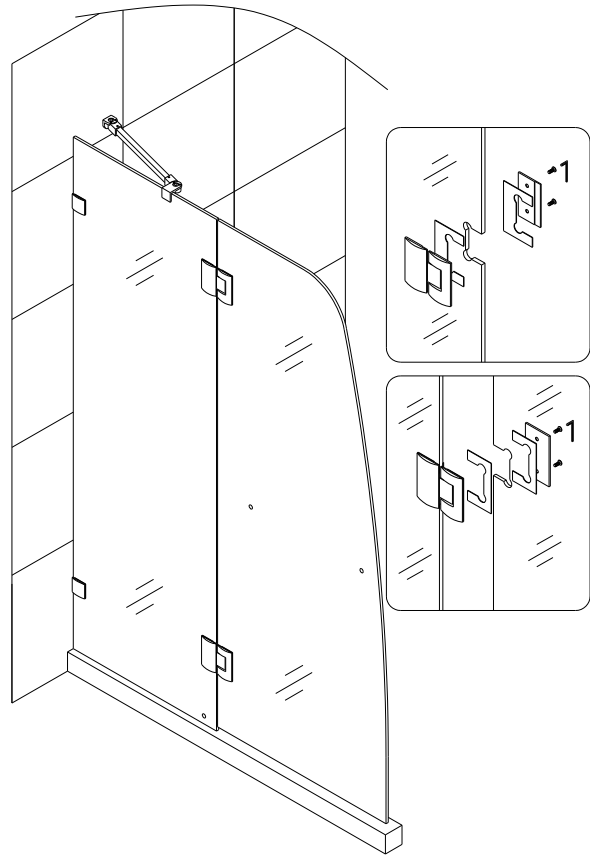

fig. 6
7. Install the **Hinges (03)** onto the stationary glass with the decorative non-screw side facing outwards. Hook the **Glass door (04)** from inside. See fig. 6 for details.